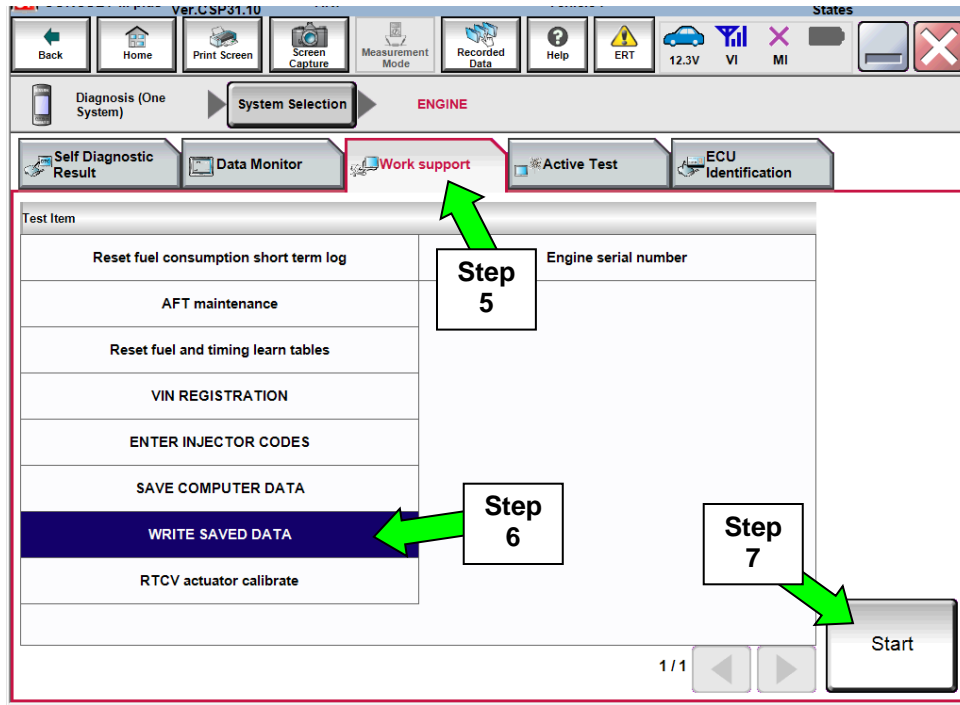

Figure 2A
5. Navigate C-III plus to **ENGINE > Work support** (see Figure 2A).